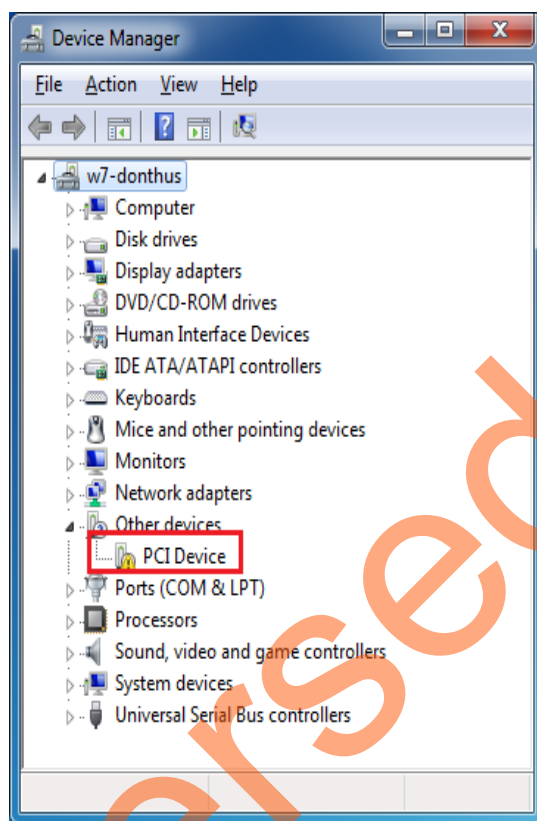

Figure 9 • Device Manager - PCIe Device Detection
5. Power on the Host PC and check the **Device Manager of the Host PC for PCIe Device**. Figure 9 shows the example **Device Manager** window. If the device is not detected, power cycle the SmartFusion2 Advanced Development Kit or IGLOO2 Evaluation Kit and click **scan for hardware changes** option in the **Device Manager**.